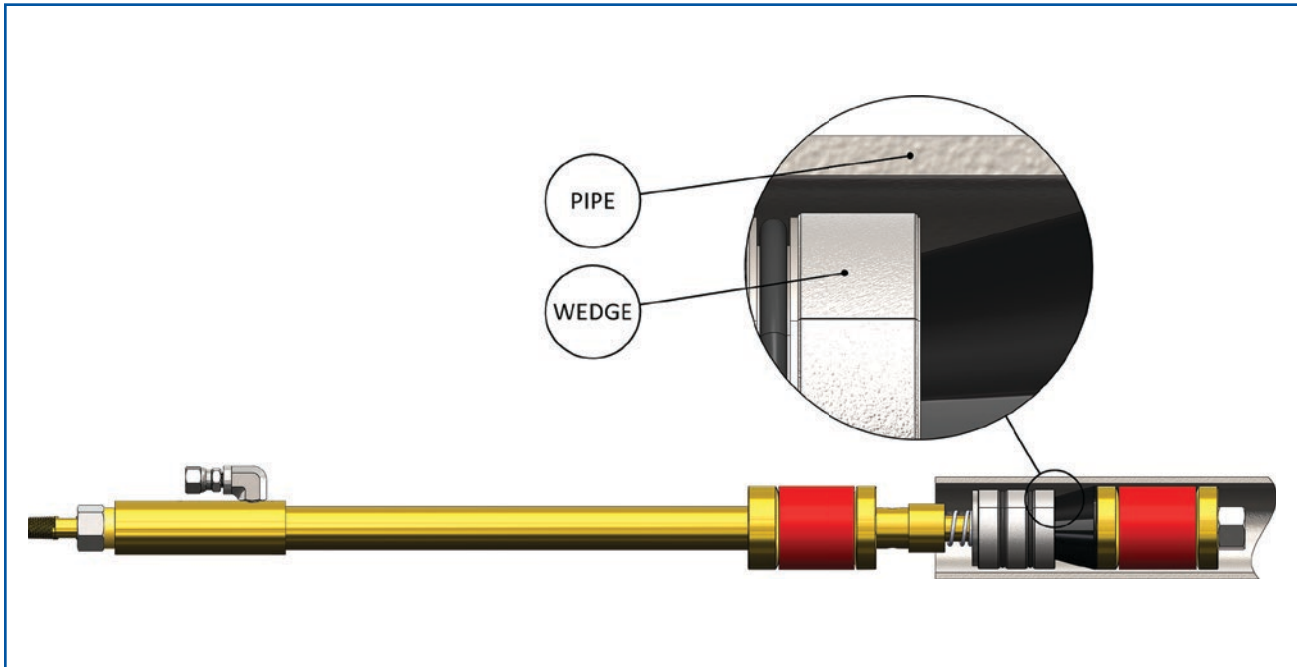

Figure 4: No Immediate Gripping Upon Insertion
- Ensure the plug is in the relaxed position (see **Figure 4**).
- The *Wedge Grippers*® should be fully retracted under the bodyline of the plug's OD and should fit inside the pipe (see **Figure 4**).